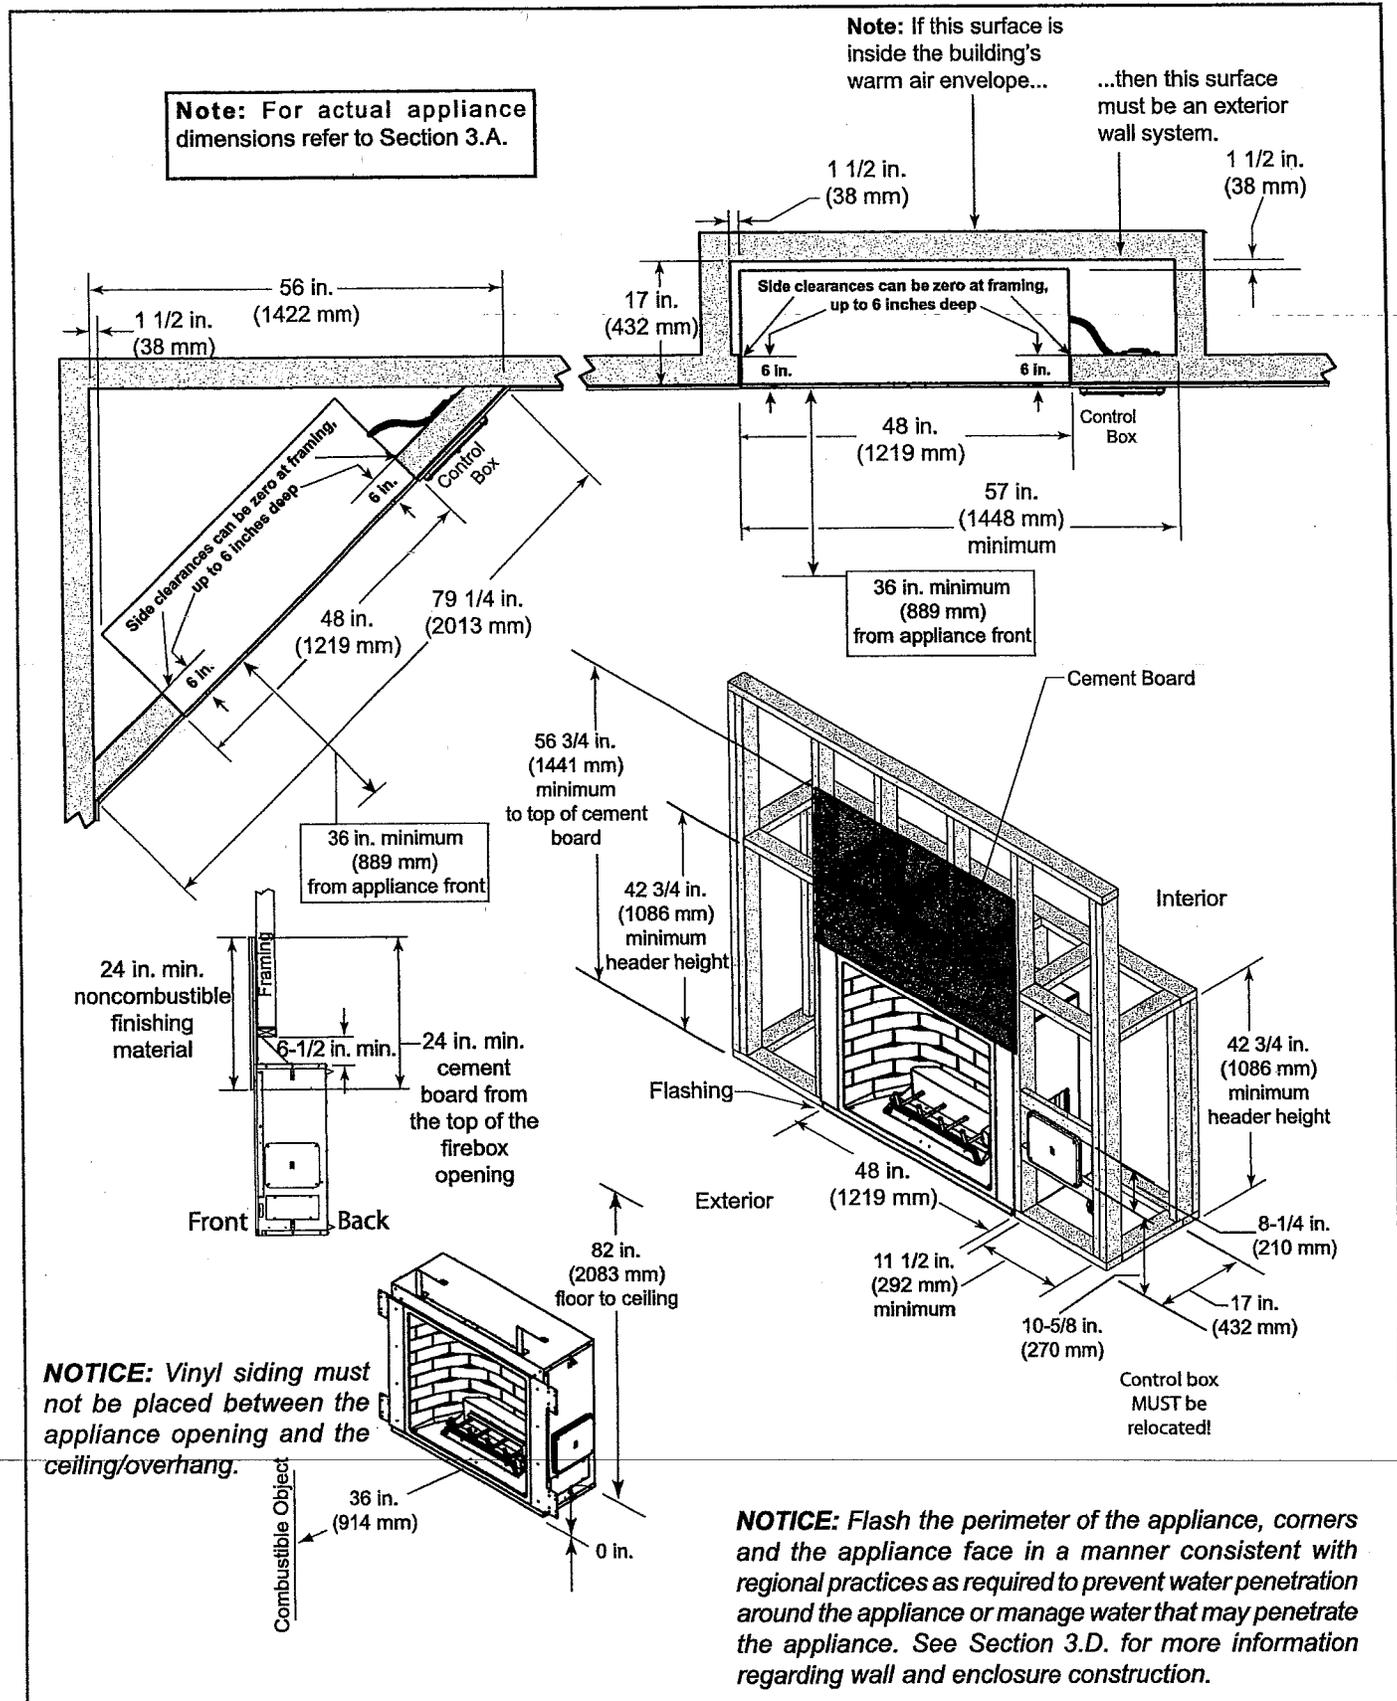
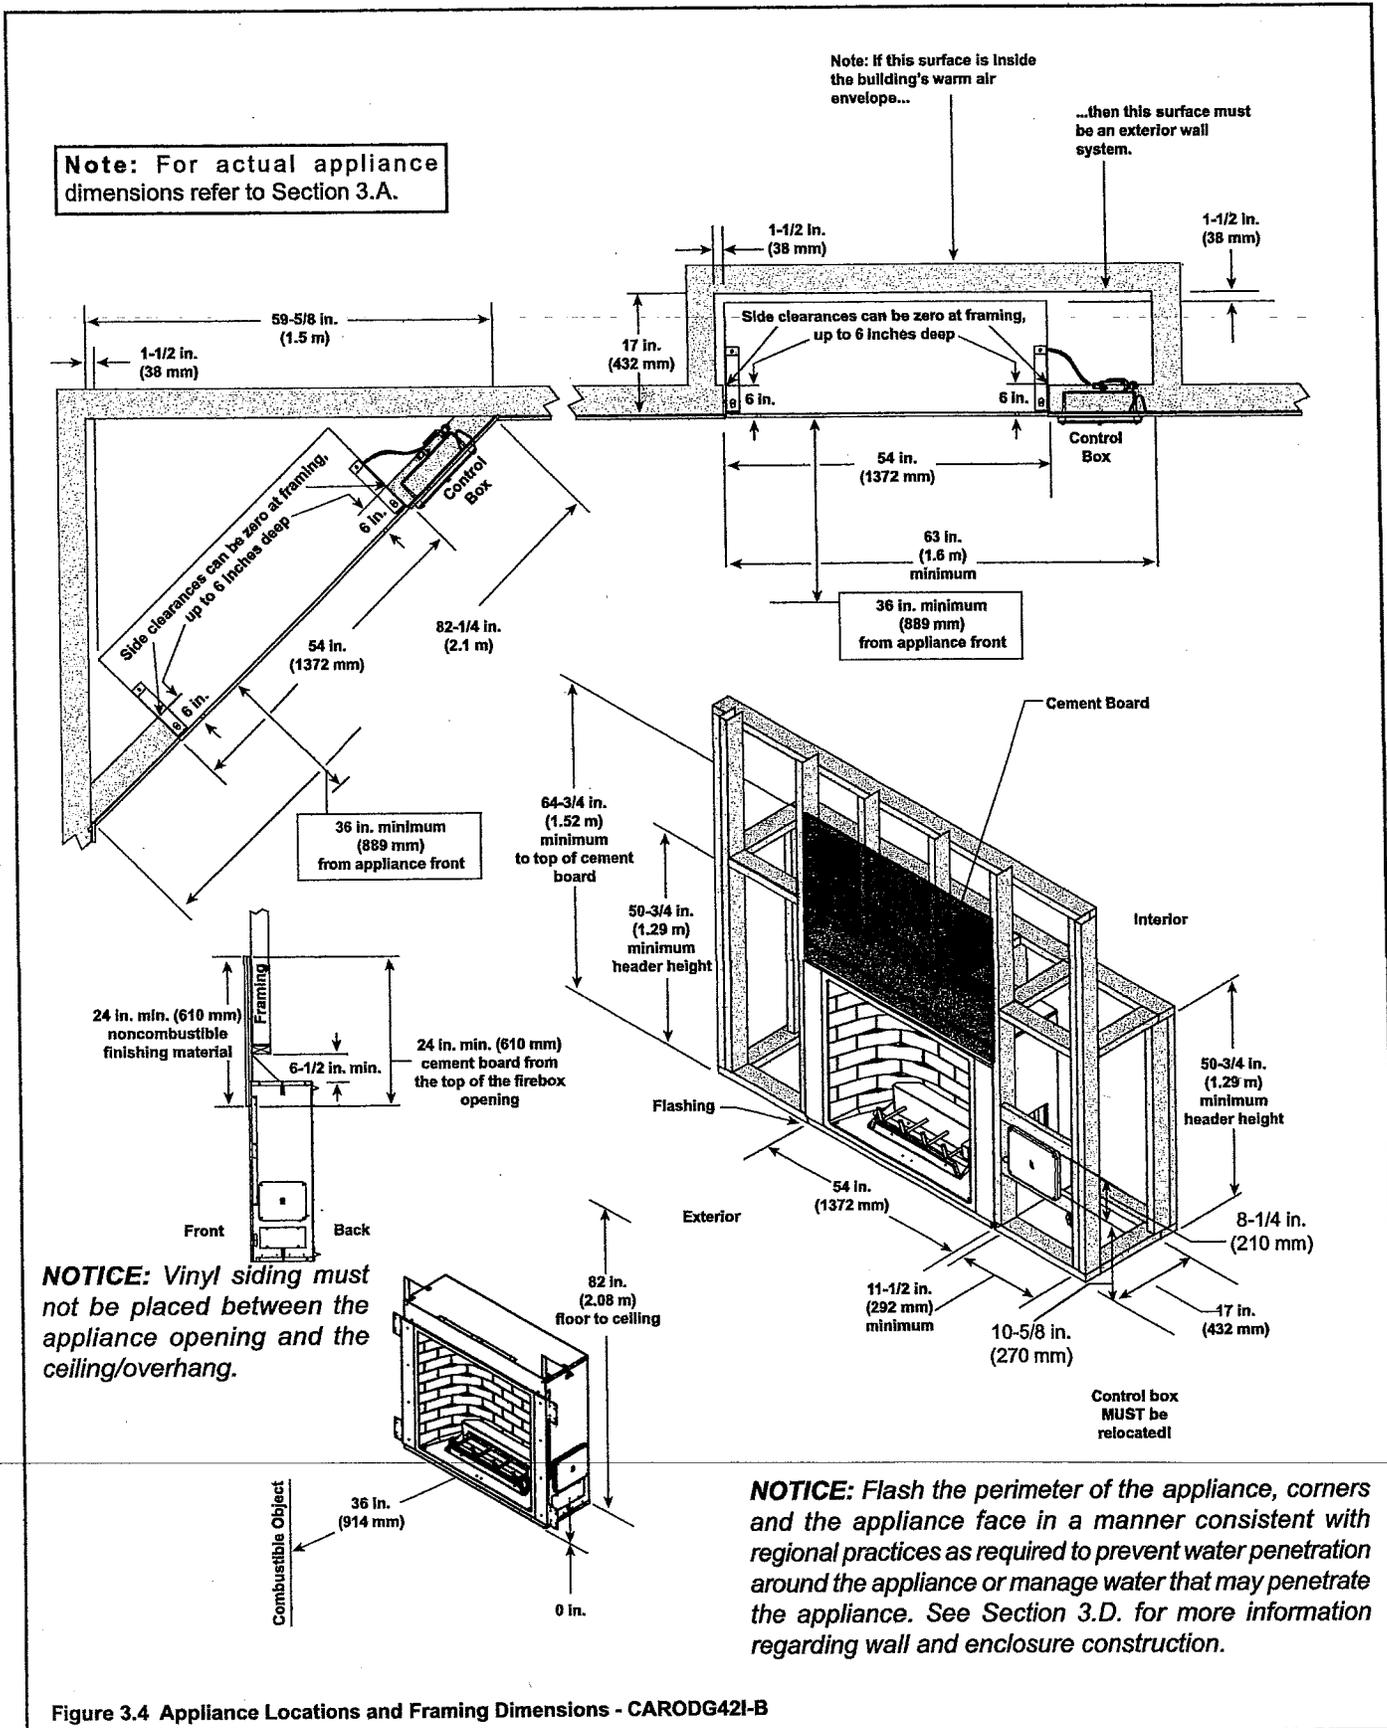

Figure 3.3 Appliance Locations and Framing Dimensions - CARODG36I-B
Figure 3.4 Appliance Locations and Framing Dimensions - CARODG42I-B
When selecting a location for the appliance it is important to consider the required clearances to walls (see Figure 3.4).
- See Figure 3.3 or Figure 3.4 for required clearances.
- See framing measurements in Figure 3.3 and 3.4.
- You must maintain 1 ½ in. (38mm) air space at the back and sides (except the first 6 inches from the front can be zero to the framing). See Figures 3.3 and 3.4.